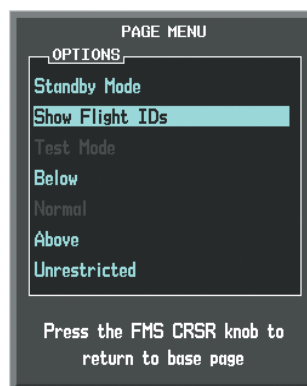

Figure 6-172 Traffic Map Page Menu
- 2) Turn the small **FMS** Knob to choose 'Show Flight IDs' or 'Hide Flight IDs' (choice dependent on current state) (Figure 6-172).